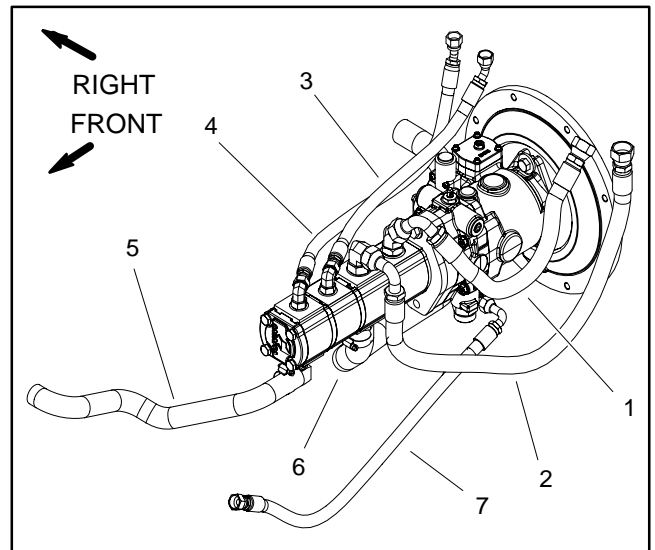

Figure 62
6. Put a drain pan below the pump assembly. Remove hydraulic hoses connected to piston and gear pumps. Put plugs or caps on disconnected hydraulic hoses and fittings to prevent contamination of the system (Fig. 62).
8. Support the piston pump to prevent it from falling while removing two (2) cap screws and washers retaining pump assembly to engine adapter plate. Carefully pull pump assembly from adapter plate and raise it out of the machine.